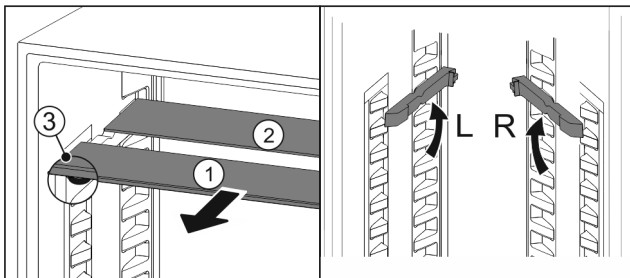

Fig. 69
- Pull the glass panels out Fig. 69 (1) from the front, one at a time.
- The glass panel Fig. 69 (1) with the trim strip is at the front.
- The stops Fig. 69 (3) point downward.